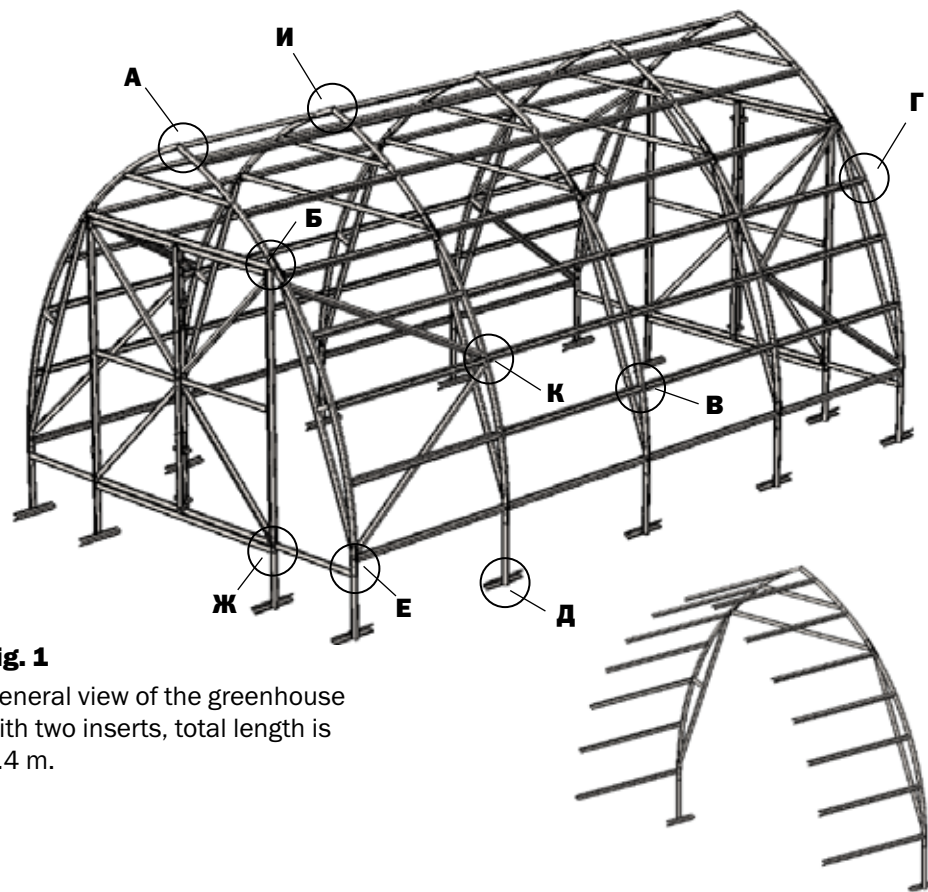

Fig. 1
1. The general view of the frame is presented in **fig. 1**. The frame is assembled from the shape numbered parts. Medium shape shelves are facing the covering..